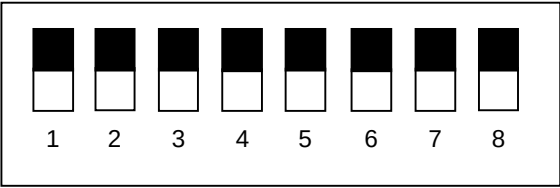

Figure 6.7.2 DIP switches (Being set for Standard setting)
(2) Perform as the procedure shown below.
(3) Set the DIP switch No.4 as shown in Figure 6.7.2.